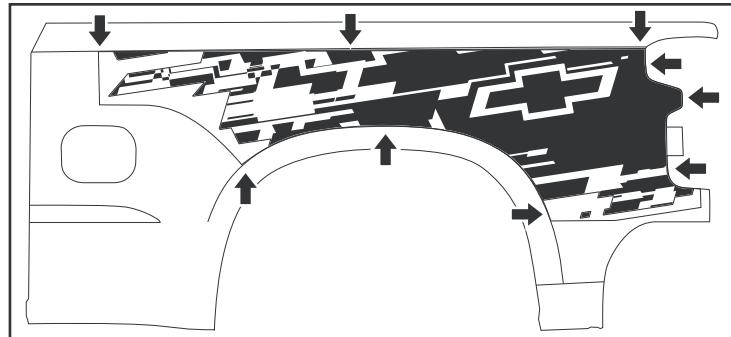

FIGURE 1 (LH SHOWN)
6. Align the top carrier extension to the upper feature line while aligning the rear and lower areas to the feature lines of the box side and tail lamp opening (see Figure 1). Lightly press the premask sections of the decal into place.